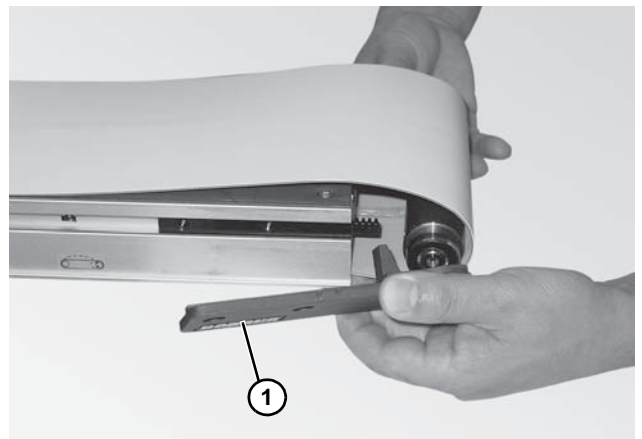

Figure 42
2. Place the head plate (**Figure 42, item 1**) and attach the head plate to the conveyor frame with the two (2) screws removed and hand tighten.